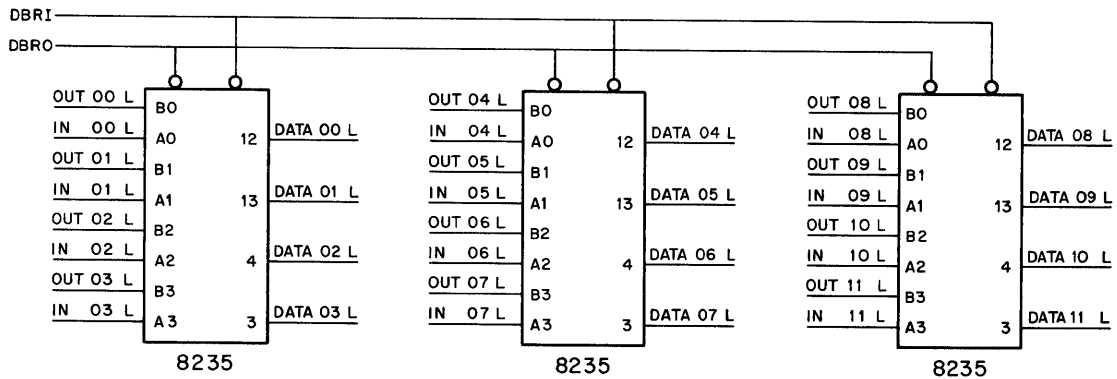

Figure 4-50 AC Bus Register
The clear sides of the flip-flops in the Output Register are applied to the AC Bus Register (see Figure 4-50) for transfer to the AC when a DBRO instruction is performed. INITIALIZE will clear all flip-flops in the Output Register as it is tied to the clock input and the data input is grounded. A high on the clock input from the inverter will clear the flip-flop if the data input is low.
**4.5.2.5 AC Bus Register** – The AC Bus Register (see Figure 4-50) will have OUT 00 L – OUT 11 L and IN 00 L – IN 11 L applied to it from the Output and Input Registers. The AC Bus Register will select the contents of either the Output or Input Register to be applied to the Data Bus for transfer to, or from, the AC. The DBRI and DBRO instructions are applied as control inputs for the 8235 IC. See Appendix A of the *PDP-8/E Maintenance Manual* for the truth table, logic diagram, and pin locator for the 8235 IC. DBRO will enable gates to select the Output Register contents; DBRI will enable gates to select the Input Register contents. The selected output will be applied to the Data Bus to load the AC.